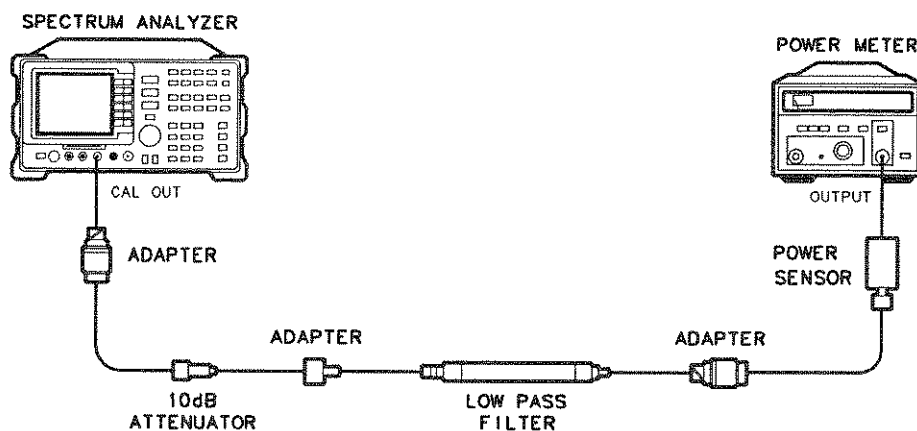

Figure 4-15. Calibrator Amplitude Accuracy Test Setup
- Connect the equipment as shown in Figure 4-15. The analyzer should be positioned so that the setup of the adapters, LPF and attenuator do not bind. It may be necessary to support the center of gravity of the devices.